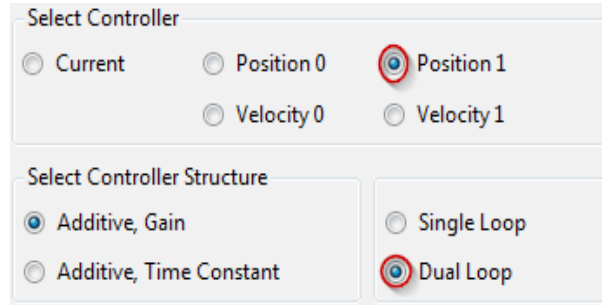

Figure 6: Setup for the tuning of the outer controller loop.
- Make sure, **Dual Loop** is selected in the **Select Controller** panel (Figure 6). With this, the *Bode* plots of the outer loop consider the closed inner loop.
If **Position 1** and **Dual Loop** is selected as shown in Figure 6, the following transfer functions are displayed in the bode plot: